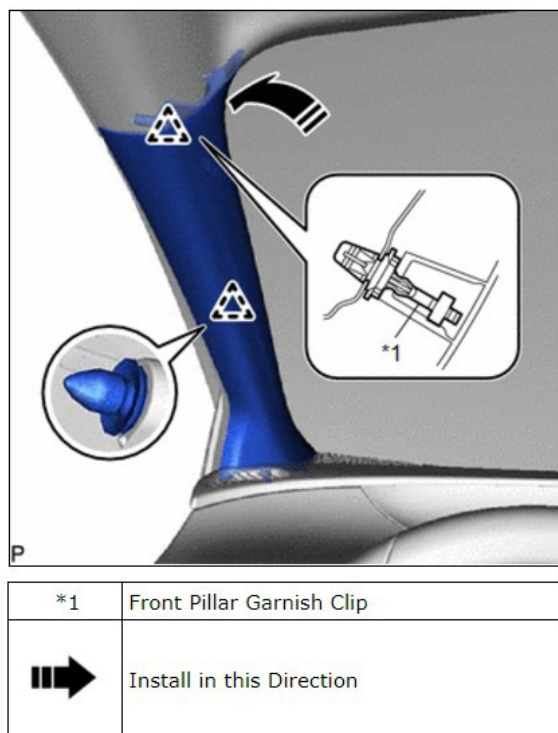

Figure 49
- (1) Connect the connector.
2. Push the front pillar garnish LH as shown in Figure 49 to engage the 2 guides.
- (f) Engage the clip and front pillar garnish clip to install the front pillar garnish LH as shown in Figure 49.